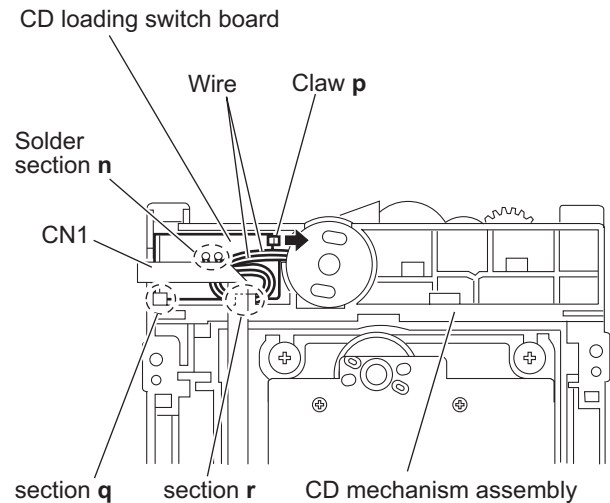

Fig.12
3.2.7 Removing the CD loading switch board (See Fig.12)
3.2.8 Removing the motor (See Figs.12 and 13)
- (1) From the bottom side of the CD mechanism assembly, remove the wires from the solder section **n** on the CD loading switch board. (See Fig.12)
Put the wires on the section **r** after attaching the motor to the CD mechanism assembly. (See Fig.12)